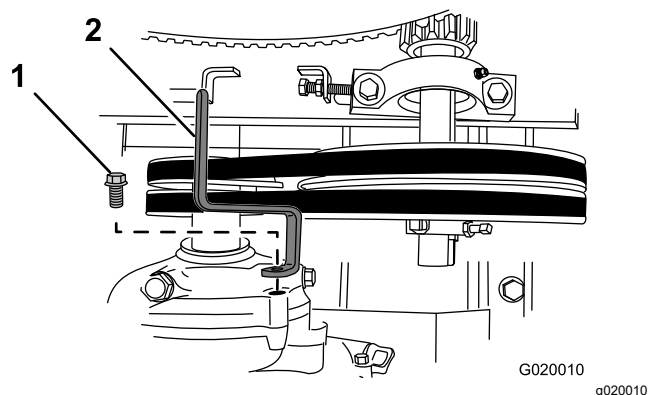

Figure 67
6. Remove the bolt that secures the belt guide to the engine, and remove the belt guide (Figure 67).
10. Loosely secure the belt guide to the engine (Figure 67) with the bolt that was removed in step 6 of Removing the Belts \(page 43\).